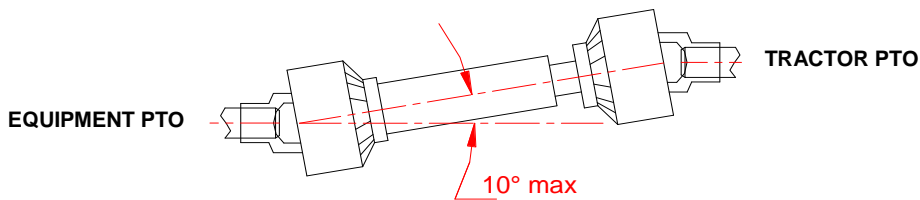

Fig.6
**PTO must never be engaged with the engine off and with an inclination higher than 10° between joints of the two connections (tractor/windrow rotary rake - fig.6);**